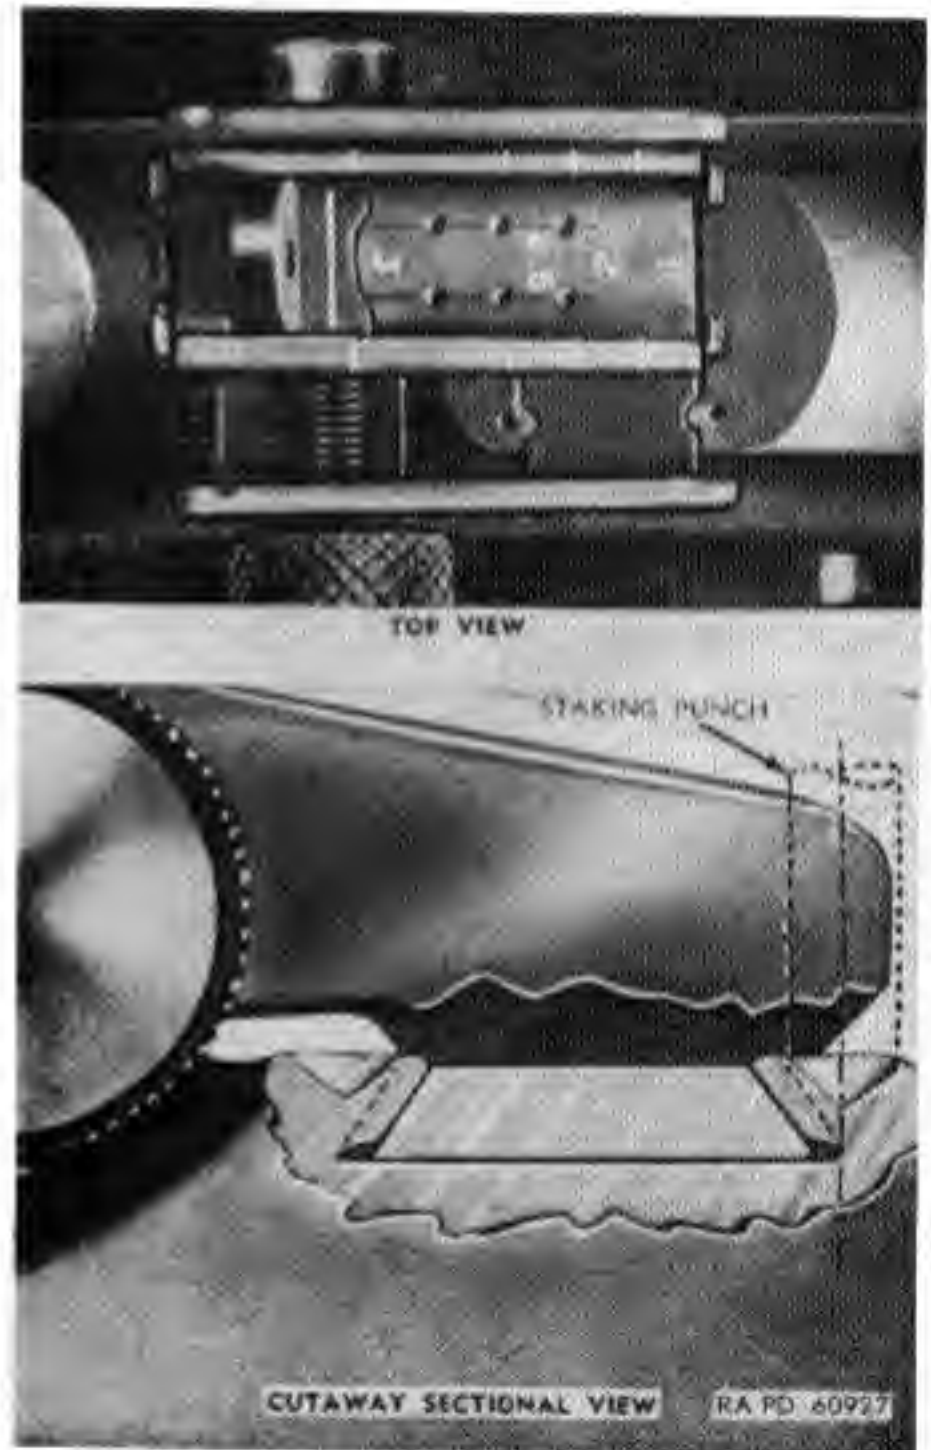

Figure 73. Rear sight showing staking.
(1) If reading is below 18 inch-pounds indent the area in front of the dovetail slot. This can first be done by using punch 7312234 (Fig. 73) and rapping punch with a hammer. Undertake this operation with extreme caution. A blow only hard enough to cause a flow of metal into the dovetail slot is necessary.
Note. The staking operation is extremely critical and success of this operation will depend largely upon the skill and judgment of the operation (Fig. 73). Bear in mind that the sharp upper edges of the dovetail slot on the receiver are easily chipped or cracked, and such damage will ultimately result in an unserviceable weapon. Many problems will arise which will have to be solved by the individual mechanic; a few of these problems and their remedies are listed in (1) and (2) below.
(1) Indents on sight base dovetail may be horizontally misaligned with references to holes in sight base. If the indents are slightly out of horizontal alignment they may be corrected by enlarging the indents very slightly with a small three-square file.